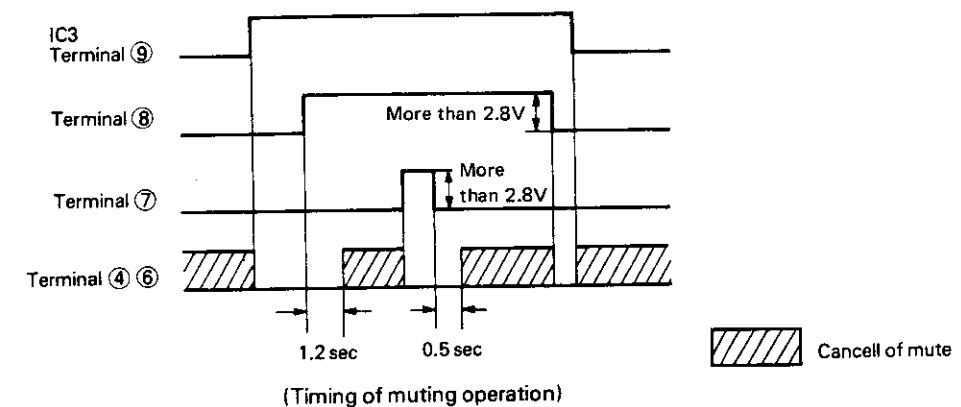

Fig. 4
• Refer to figure 4 while reading the following description.
1. When + B is supplied to the TO BATTERY terminal, a voltage is applied to terminal ⑨ of IC3, the muting transistor inside the IC is turned on and muting is activated.
2. When power is turned on to the external set, + B is supplied to pin ① of the connector. Muting is cancelled 1.2 seconds after the voltage at terminal ⑧ of IC3 reaches 2.8V or more.
3. When a muting output is generated in the external set, a voltage is applied from pin ④ of the connector to terminal ⑦ of IC3 and muting is activated when this voltage reaches 2.8V or more. Muting is cancelled 0.5 seconds after the voltage drops below 2.8V.
4. The muting restoration time is determined by the discharge time of the capacitor placed between terminals ① and ③ of IC3.